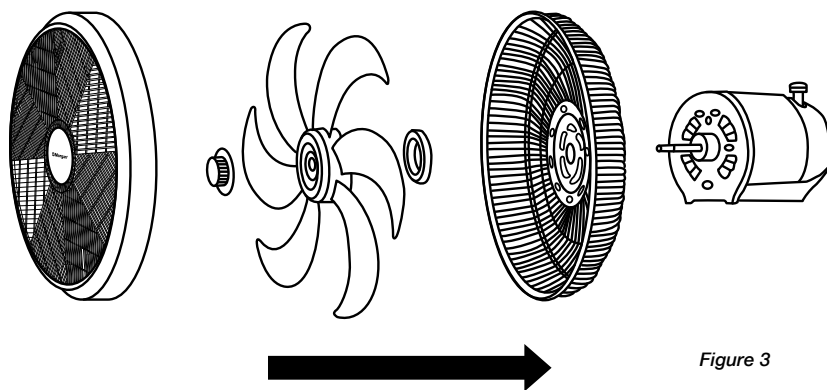

Figure 3
- Attach and clip the front grill on the rear grill and close the bottom clip with the safety screw provided as shown in figure 3.